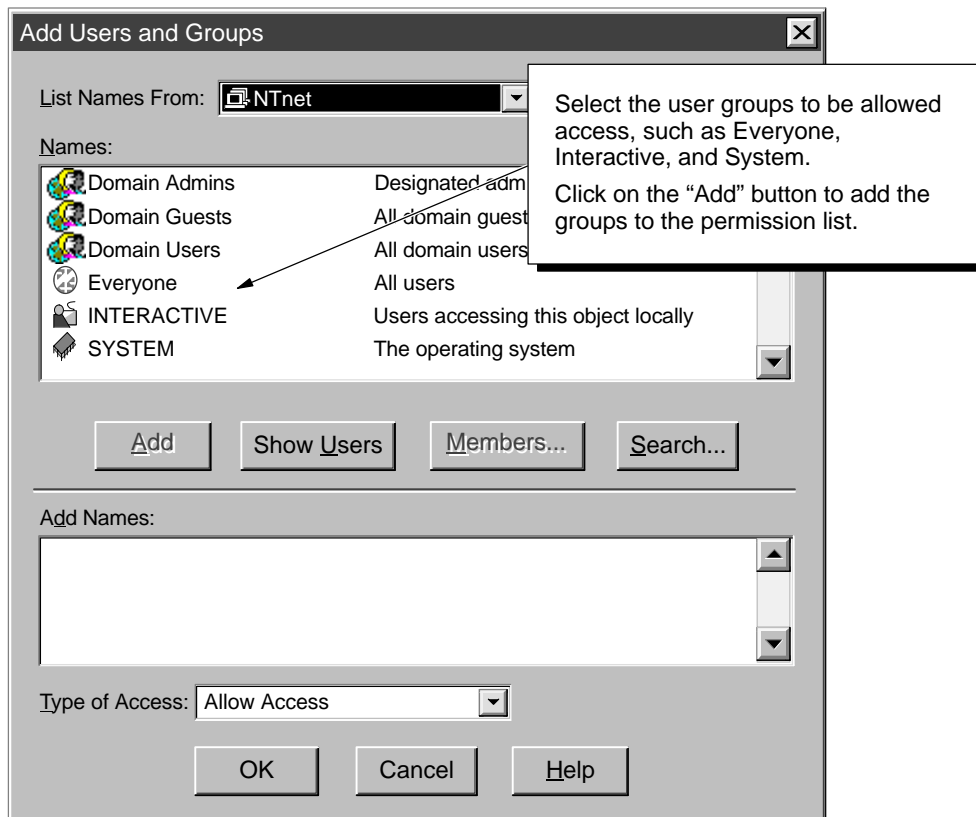

Figure E-6 Changing the Access Permissions for Users or Groups
3. Click on the “Add” button to display the “Add Users and Groups” dialog box and change the security settings for access to the server. See Figure E-6.